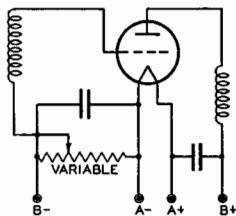

Fig. 31
**Grid voltage variation** for the r-f amplifier stages is a convenient and frequently used method for controlling receiver volume. The variable voltage supplied to the grid is obtained from a bleeder circuit by means of a potentiometer; by the self-bias method using a variable resistor; or, with automatic volume control (a.v.c.), from a bleeder circuit by means of changes in bleeder current caused by the a.v.c. tube. In any case, it is important that the control be arranged so that less than the minimum recommended grid-bias voltage cannot be applied to the grid. This requirement may be met by a stop on the potentiometer, by a fixed resistance in series with the variable section, or by a fixed cathode resistance in addition to the regulating resistor. See Figs. 31 to 33.